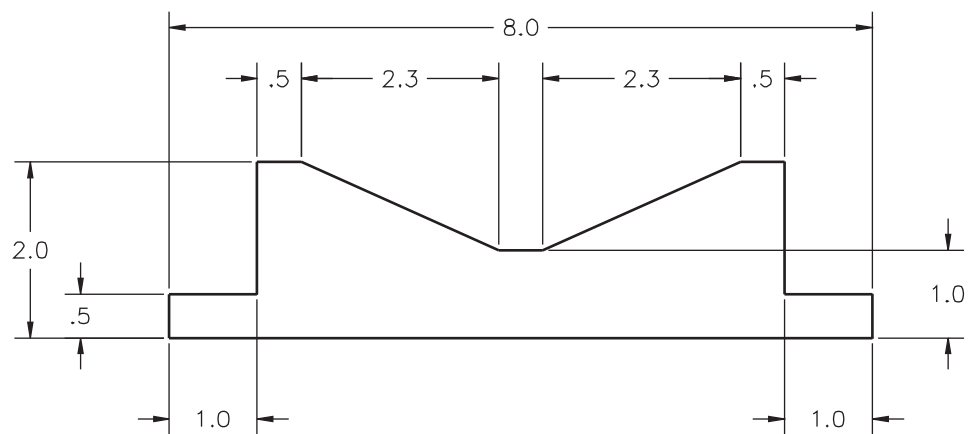

Fig. 43-14
1. Create a solid model of the boat trailer roller. Define the shape of the roller with a polyline, as shown in Fig. 43-14.